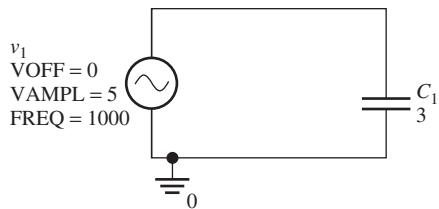

FIGURE 4.33 PSpice solution for Example 4.3.
4. Set up the circuit as shown in Figure 4.33.